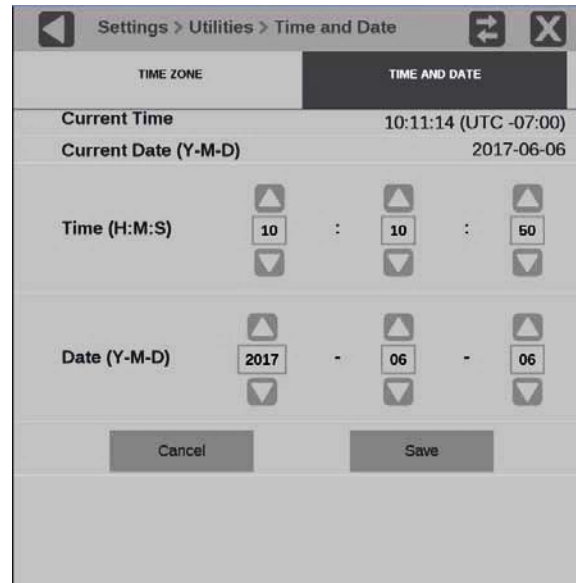

Figure 85: Time and Date submenu
7. Adjust the time and date using the up and down arrows as needed. The time setting uses a 24-hour clock, so no AM/PM setting is required. (See Figure 85.)